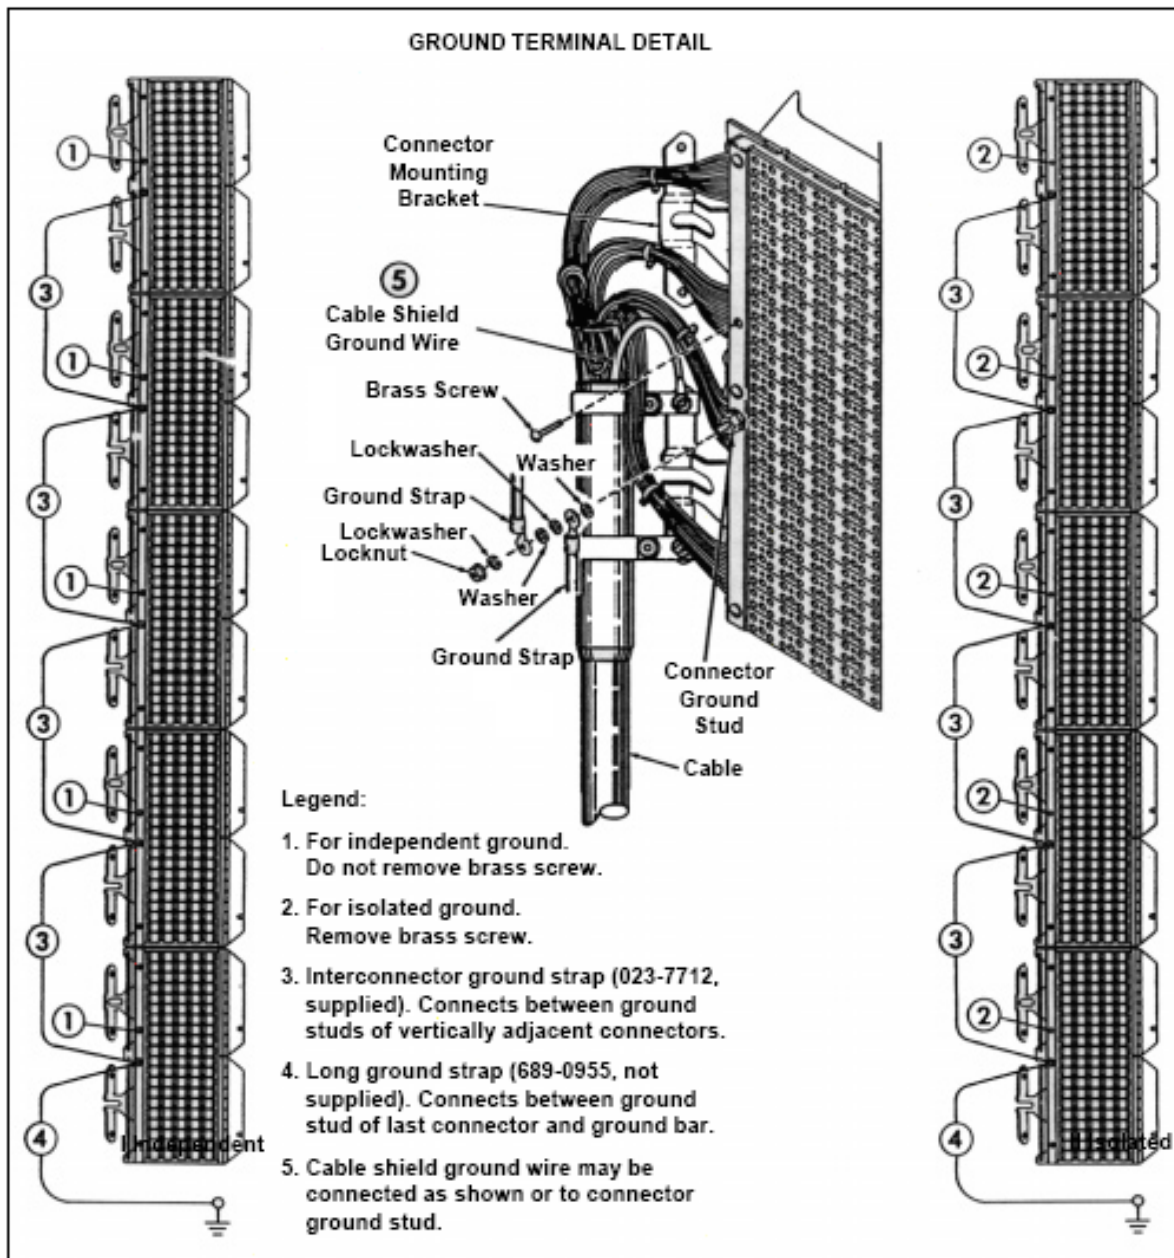

Figure 14 – C-377 Connector Grounding Methods.
9.1 Grounding of the C-377 connector can be easily accomplished by craftsperson in the field, using either the independent or the isolated grounding method, as illustrated in Figure 14. Other local procedures may also be used, but in all cases, be sure that the connector ground stud is used for connection of ground.
9.2 Independent grounding method (Figure 14-I). In this method, the connector ground stud is connected to both the connector mounting bracket and the ground strap. [The supplied interconnected ground straps are connected between the ground studs of adjacent connectors on the same vertical, and an accessory long ground strap (catalog no. 689-0955) is connected from the last ground stud to the frame ground bus bar.] Therefore, ground is supplied to the connector from the frame ground bus bar both through the framework to the connector mounting bracket and through the linked ground straps to the ground stud.
9.3 Isolated grounding method (Figure 14-II). In this method, the connector ground stud is isolated from the connector mounting bracket by removing the brass screw. The ground strap connection is the same as in the independent method. Ground is supplied from the frame ground bus bar through the linked ground straps to each connector ground stud, but no ground circuit is carried through the frame work.
Note: If local requirements dictate isolation of the cable shield ground from the framework, the cable shield grounding wire can be disconnected from the connector mounting bracket (or connector mounting bar on field installed stubless units), and connected to the ground stud on the connector, as shown in Figure 14.